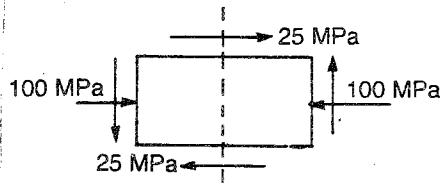

Fig. 2.23
- (5) Solve the above problem Graphically.
- (6) A plane element in a body is subjected to the stresses $\sigma_x = 40$ MPa, $\sigma_y = 0$ and $\tau_{xy} = 60$ MPa. Determine the normal and shearing stresses on a plane inclined at 45° to the horizontal axis. ($\sigma = 80$ MPa, $\tau = 20$ MPa)
- (7) A plane element is subjected to the stresses $\sigma_x = 100$ MPa and $\sigma_y = 100$ MPa. Determine the maximum shearing stress existing in the element. (Ans. Zero)
- (8) Draw Mohr's circle for a plane element subjected to stresses $\sigma_x = 100$ MPa and $\sigma_y = 100$ MPa. Determine the stresses acting on a plane inclined at 45° to the x - axis. ($\sigma = \text{zero}$ and $\tau = 100$ MPa)
- (9) A plane element is subjected to the stresses shown in fig. 2.23 Determine (a) the principal stresses and their directions. (b) The maximum shearing stresses and their directions.